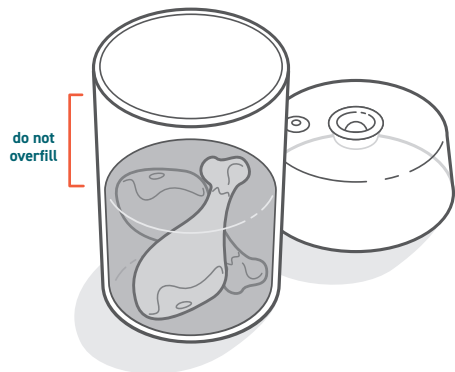

Figure 4.1
1. Fill the container up to  $\frac{3}{4}$  full. **Do not** overfill. [Figure 4.1]